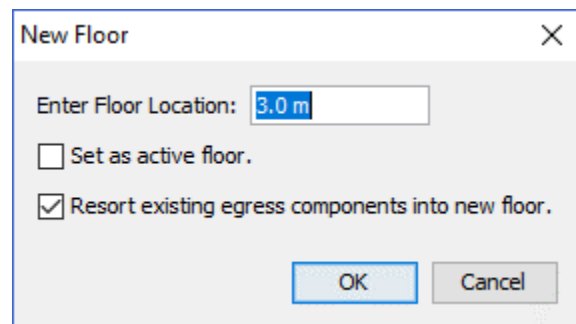

Figure 17. Floor Location Z plane
2. Enter the Z plane location (Figure 17) or click on a snap point in the 3D or 2D view and click okay. This Z plane will be used to update the drawing tools' working Z location when this floor is made active.